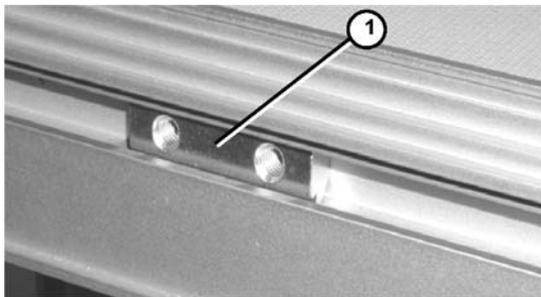

**Figure 20**
2. Partially thread controller lower mounting bar (**Figure 20, item 1**) to t-bar with screw (**Figure 20, item 2**).